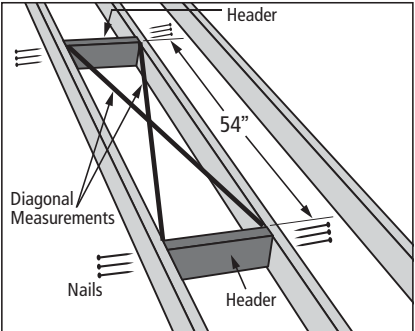
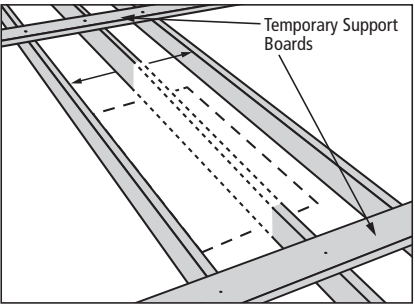

FIGURE 13
FIGURE 14
Make a rough opening to the size as required in table 2 (page 3) ensuring that the dimensions of the diagonals of the frame are the same as illustrated in figure 13.
A. For Rough opening without joist removal (figure 13)
- Locate headers in front and rear of the opening as shown in figure 13.
- Secure using (3) 16d nails into each end of the Header.
B. Rough opening with joist removal (figure 14)